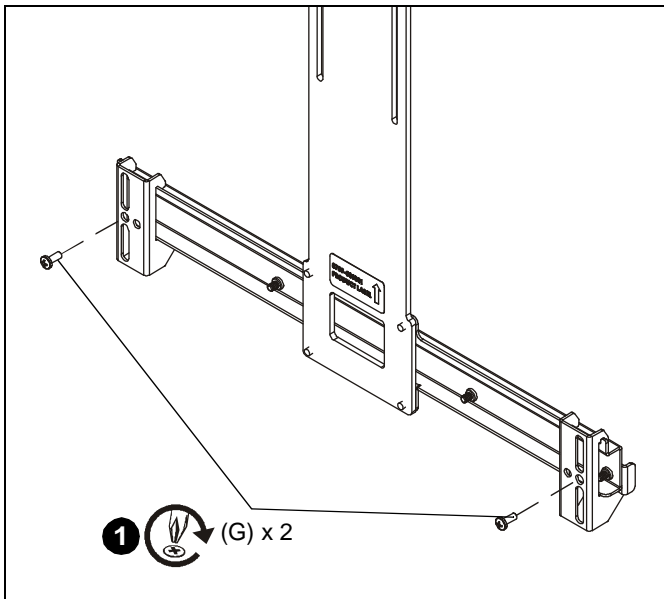

Figure 8
1. Insert two 10-24 x 1/2" Phillips pan head screws (G) into center channel hooks and hang speaker on screws. (See Figure 8)